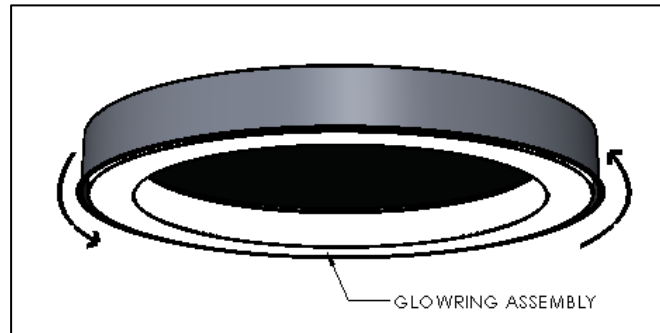

FIG. 16 – FINAL INSTALLATION
5. Once tight against MOUNTING TRAY, rotate GLOWRING ASSEMBLY clockwise (while applying upward force) until you hear/feel fixture engage MOUNTING CLIPS as shown in FIG.16. It may take force to overcome and engage mounting clips. Once engaged, remove upward pressure and softly rotate fixture counterclockwise to ensure fixture is fully seated in MOUNTING CLIPS.